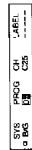

Fig. 5
- 5 Select the second element of the double-digit number with $\Delta +$ or $\Delta -$ or the number buttons (e.g. For «04», select «4» here) (See Fig. 5) and press OK.